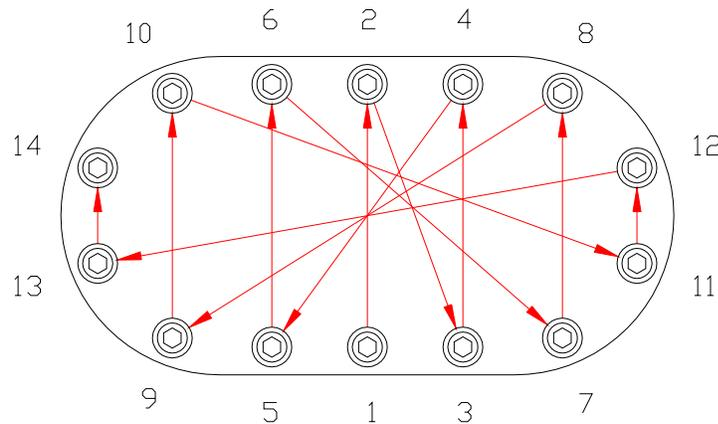

Fig. 1
- Fasten bolts in a diagonal format, in accordance with (Fig. 1).